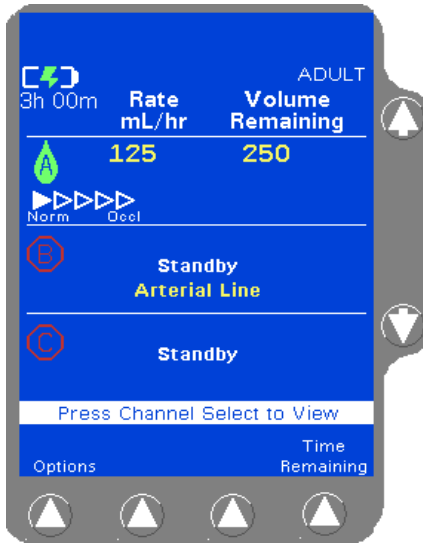

Figure 4-115 Flow Check Main
2. Use the $\uparrow\downarrow$ keys to highlight **Flow Check** and then press the **Select** soft key. The status is displayed on the Main Display for 10 seconds (Figure 4-115).